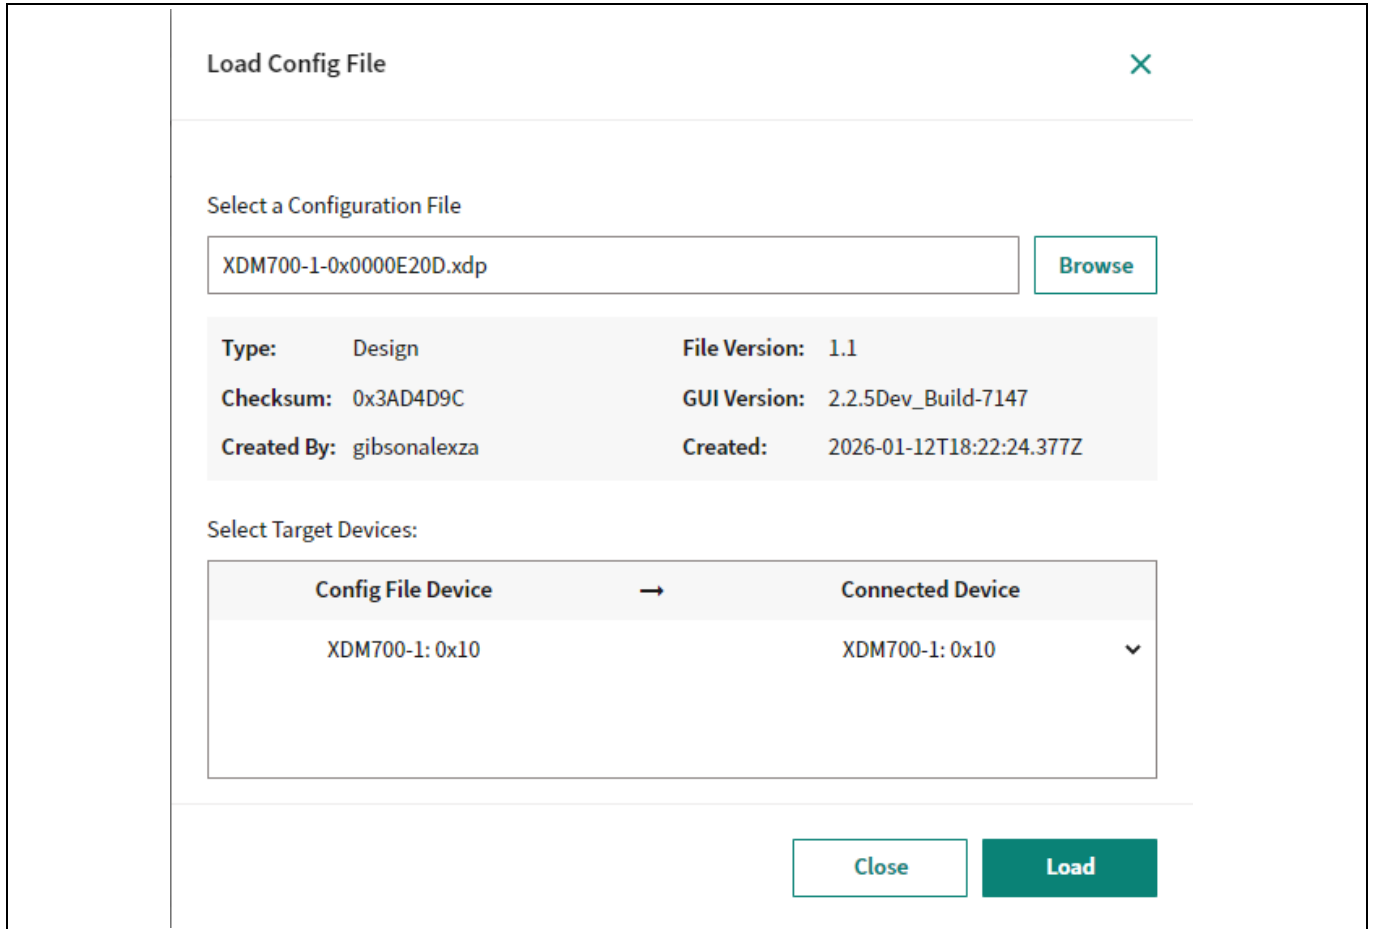

Figure 18 Load the selected configuration file
10. Click **Load** to load the necessary configuration onto the device, as shown in Figure 18